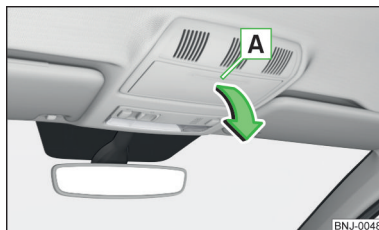

Fig. 82
- Press on the lid of the glasses storage compartment in area **A** » Fig. 82.
- Move the tray in the opposite direction to that of the arrow » Fig. 82 until it audibly clicks in place.